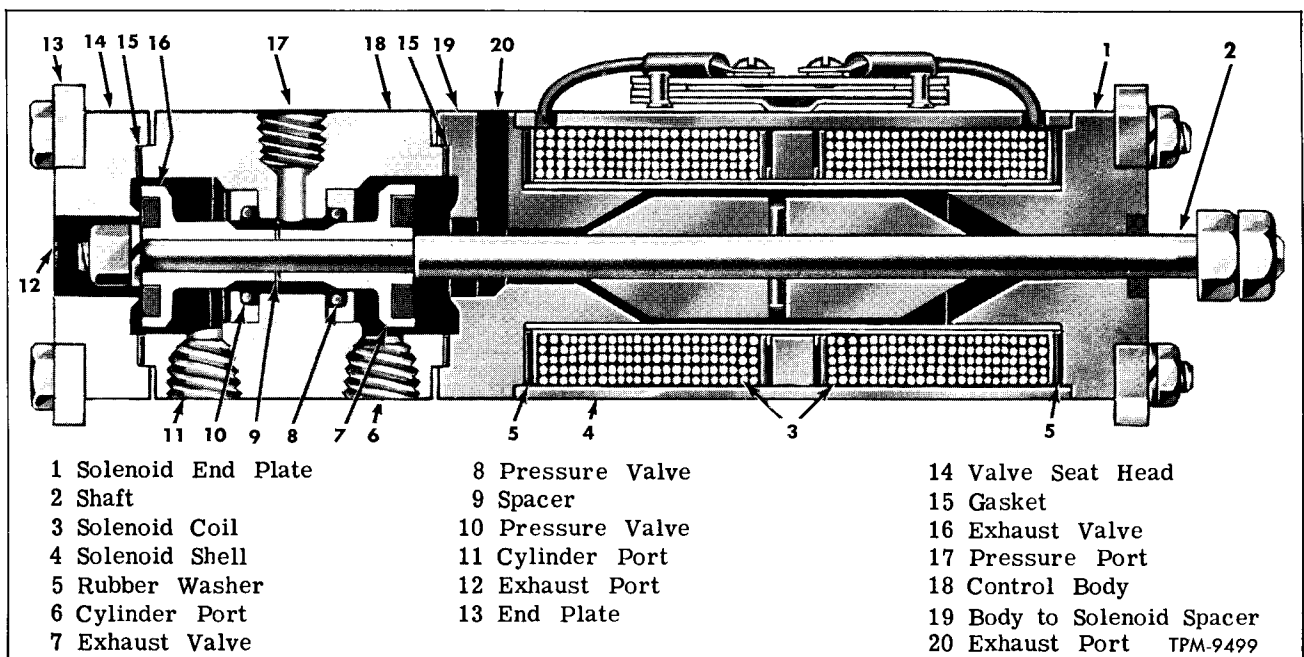

Figure 14—Rear Door Engine Solenoid Valve
Solenoid valve consists of two intake valves and two exhaust valves, actuated by a dual solenoid (fig. 14). Solenoid coils are alternately energized by movement of door sensitive edge switch or by driver's control valve, with resultant valve action admitting air to one side of door engine, while exhausting air from other side.
NOTE: Key numbers in text refer to figure 14.
In position shown in figure 14, exhaust valve (16) is closed, pressure valve (10) is open, exhaust valve (7) is open, and pressure valve (8) is closed. Consequently, air entering pressure port (17) flows through open valve (10), into that end of door engine connected to cylinder port (11). At the same time, pressure in that end of cylinder connected to cylinder port (6) is exhausted past valve (7) and out exhaust port (20).